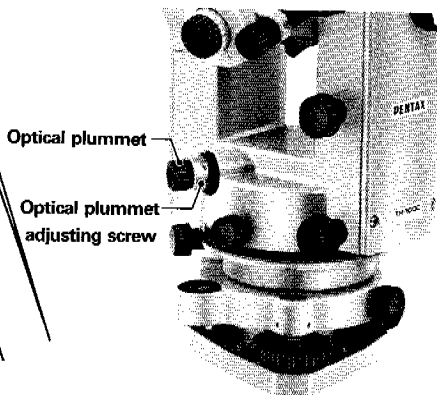

Fig. 46
3. Turn three optical plummet adjusting screws with a screwdriver so that the center mark coincides with intersecting point O (see Fig. 46).